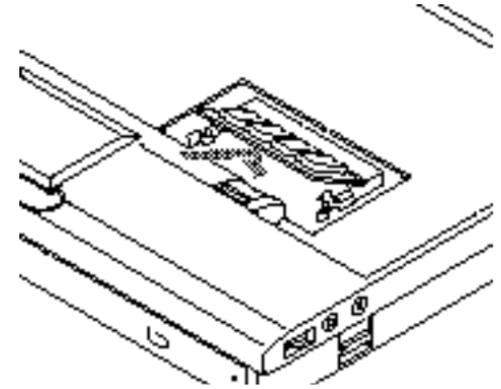

Figure 4-2 Installing the RAM Module
- Align the connector edge of the RAM Module with the connector slot in the compartment. The notch on the module should be on the right with the part side up and the connector pointing towards the back of the notebook and aligned towards the notch in the connector. (Figure 4-2.)
8. Insert the RAM Module at a 45° angle. (Figure 4-2.) Press the connector edge of the module firmly down and into the connector.